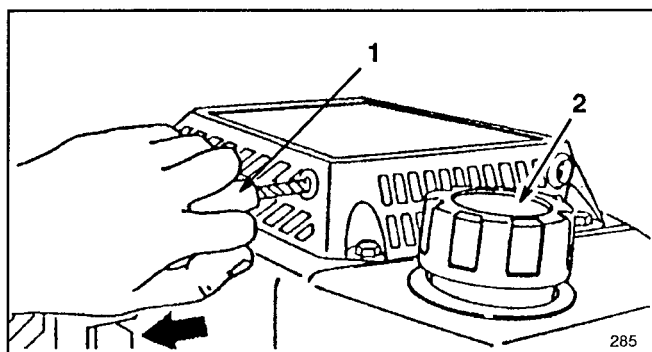

Figure 9
1. **CONTROLS**—Key switch (key start model), ground speed control, throttle, and blade/self-propelled control bar are on upper handle (Fig. 8). Fingertip starter is on top of engine (Fig. 9).
4a. KEY-ELECTRIC STARTING—Move throttle to **CHOKE**. Turn key to START and release when engine begins running. When engine starts, remove throttle from **CHOKE** and regulate as desired. If the battery's charge is too weak to start the engine, the engine can be started with the fingertip starter (Fig. 9).